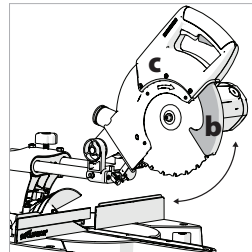

Fig. 38b & c
- Rotate the retractable lower blade guard (**Fig. 38b**) up and into the upper blade guard. (**Fig. 38c**).